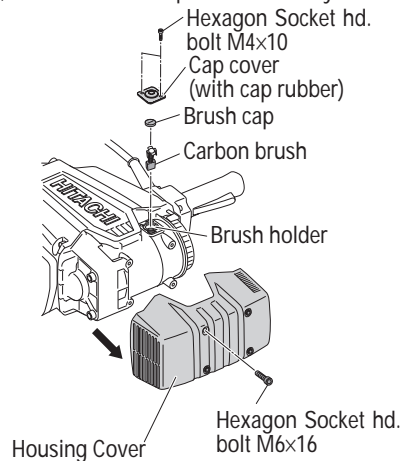

Fig. 10
5. Replacing carbon brushes (Fig. 10)